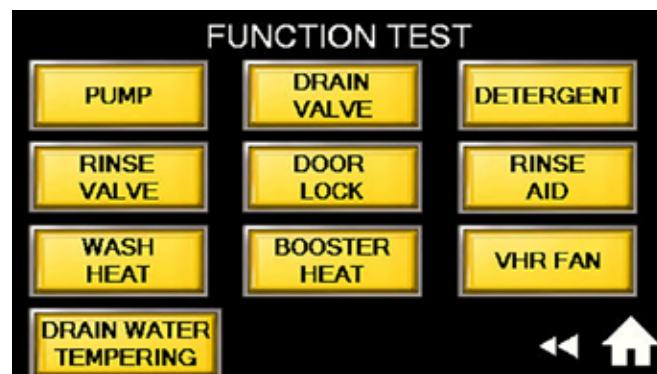

Fig. 93 - Function Test menu
1. Press the Function Test button, (Fig. 93).